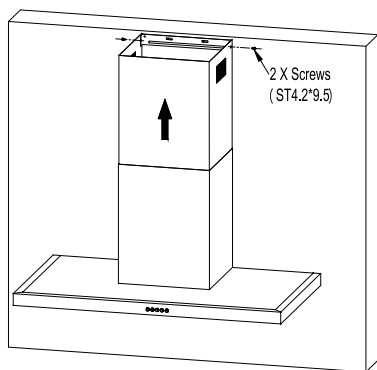

Fig.8
- Fix extension chimney. See Fig.8.